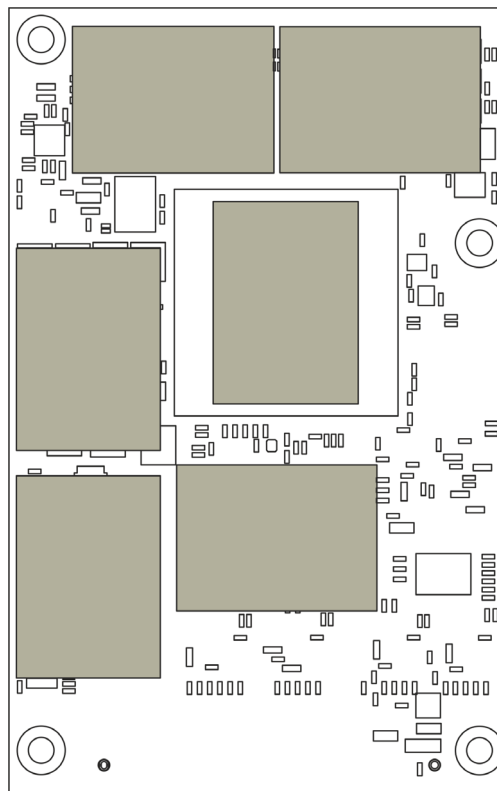

Figure 24: Mounting the Thermal Pads
1. Remove the back-adhesive cover from a Thermal Pad and stick the pad to the P-MAESTRO BLM as shown in Figure 24.
Repeat the above step 1 for the remaining Thermal Pads (Figure 24)